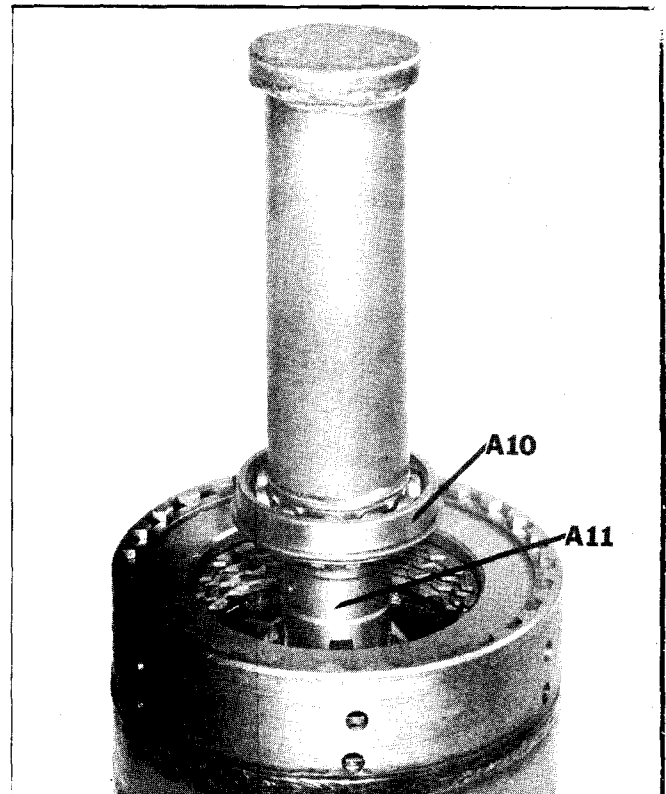

Figure 38A
4. Press bearing (A-10) onto opposite end of the bearings snap ring (Figure 38A).